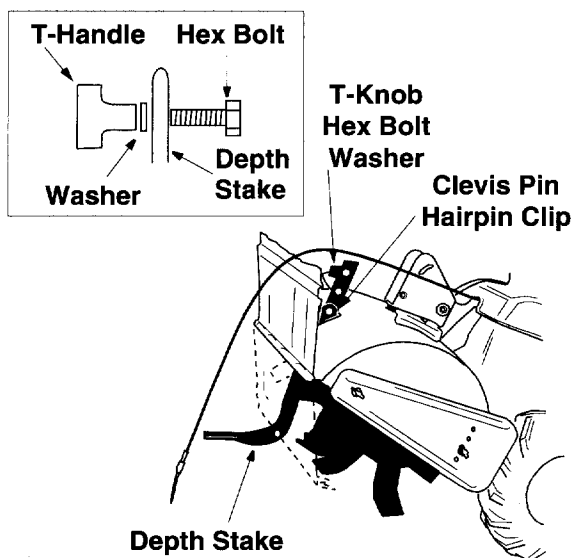

Figure 3
2. Raise the tine shield hinge flap assembly. Remove "T" knob, flat washer and hex bolt from depth stake. Insert the depth stake assembly in front of spacer (under the tine shield) and up through the tine shield assembly as shown in Figure 3.
4. Insert hex bolt into the top hole of the depth stake assembly. Place flat washer on hex bolt and thread "T" knob onto the hex bolt. See Figure 3. Tighten securely.